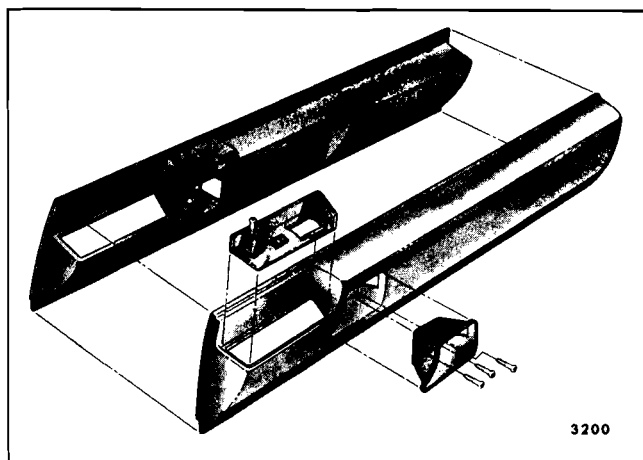

Fig. 14-12—Door Arm Rest - "E" Style Shown, Cadillac "C" Styles Typical
5. On styles with switch cover plate in door arm rest (Fig. 14-12), remove screws securing cover plate and disconnect switches and vacuum door lock actuator, if present, from wire harness connectors and vacuum hoses.